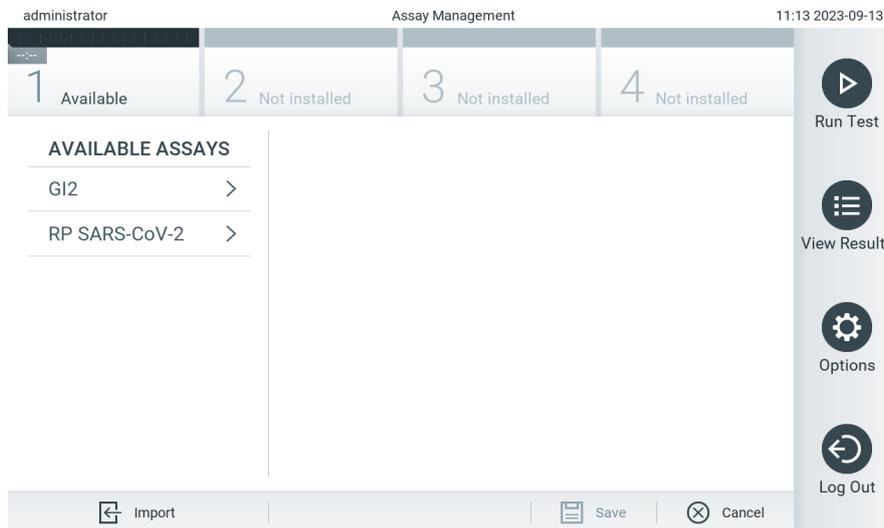

Figure 58. Assay management screen.
2. To import the new assay(s) to the QIAstat-Dx Analyzer 2.0, press the **Options** button and then the **Assay Management** button. The Assay Management screen appears in the content area of the display (Figure 58).